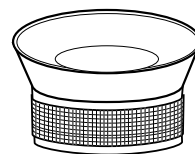

Figure 9-13
- ① Remove the rubber hood (Figure 9-13).